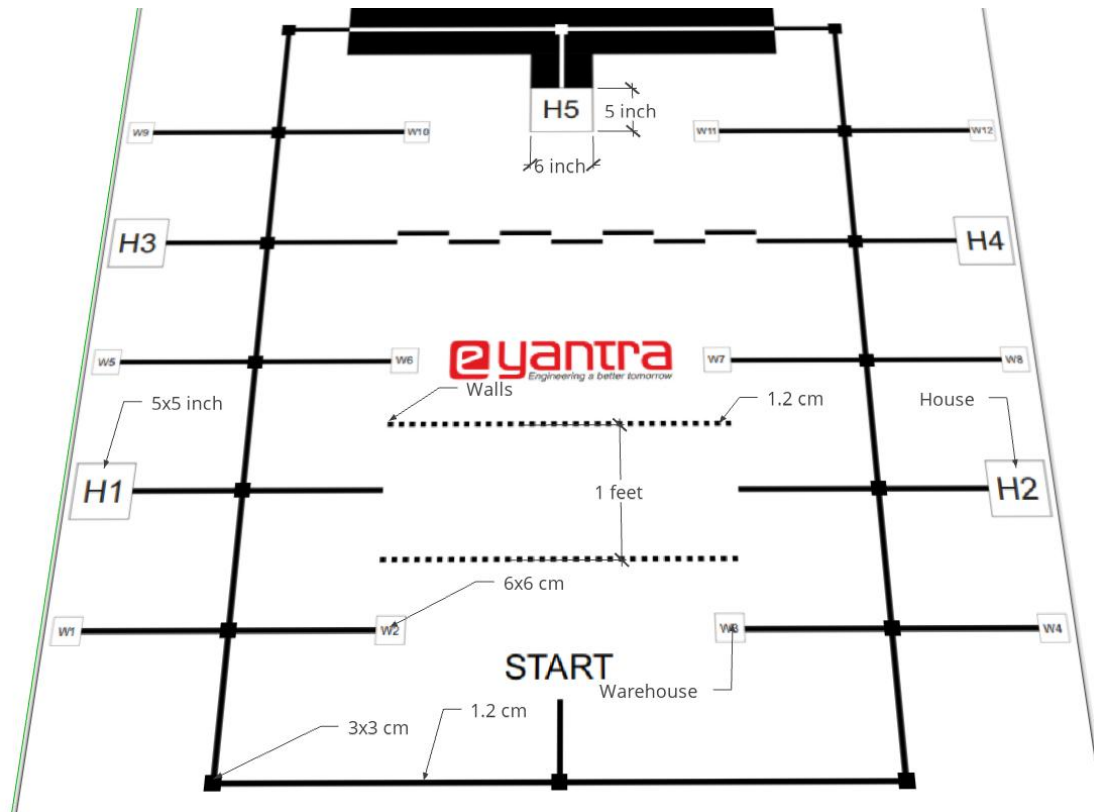

Figure 1: Arena with dimension
- a). The arena for this theme is an abstraction of a disaster occurred in different terrains. This is represented as a combination of zig-zag and different terrain paths. Arena with START point and the dimensions of the House, Warehouse and Wall is shown in Figure 1 below.
- **Construction Material (CM):** are coloured thermocol blocks representing the materials required for construction.
- **Warehouse (W):** are zones where Construction Materials (CM) are kept. There are total twelve (12) Warehouses in the arena represented as W1, W2, ...W12 as shown in Figure 1.
● **House (H):** There are five Houses in the arena namely H1, H2, H3, H4 and H5 as shown in Figure 1. A House is of two types: *low-rise House* and *high-rise House*.